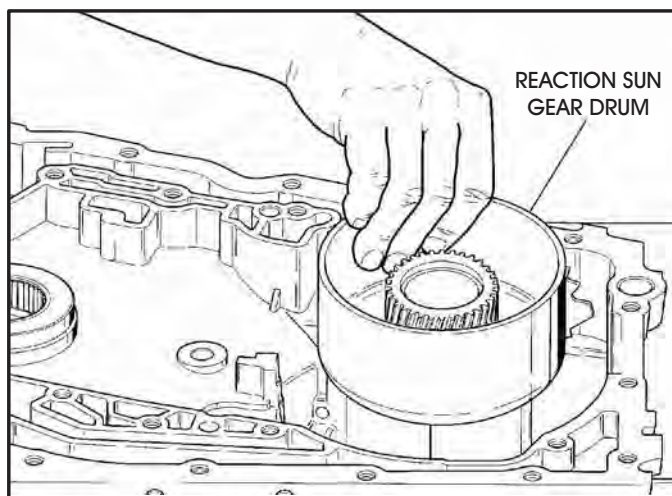

Figure 174
23. Install the reaction sun gear drum into the case, as shown in Figure 174, by rotating until the drum is fully seated.